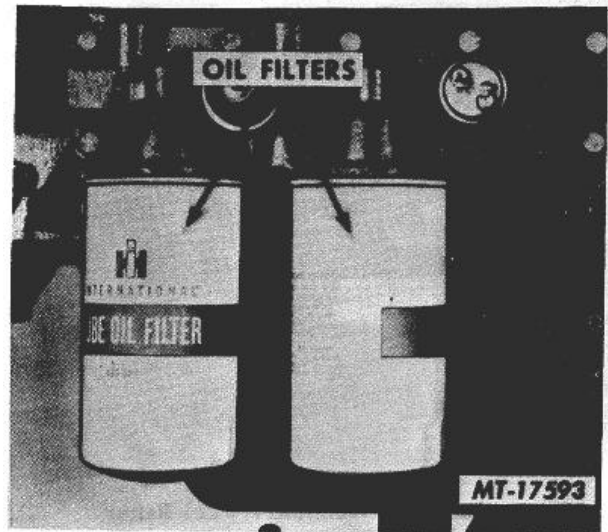

Fig. 184 Oil Filter Installation
81. Install new oil filters on filter base (Figure 184).